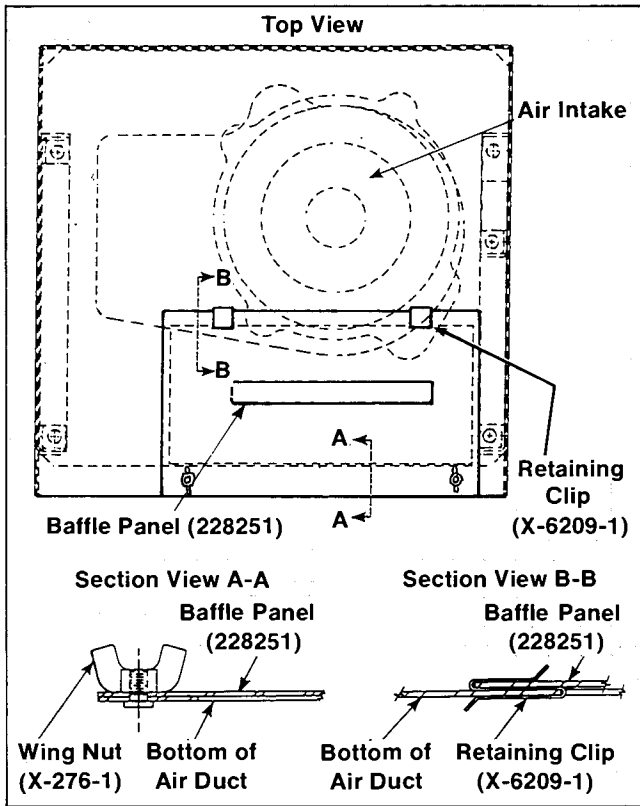

Figure 35. Installing Baffle Panel
4. Slide the two retaining clips (X-6209-1) into position at rear edge of rectangular opening in air duct. See Figure 35 for placement of retaining clips.
5. Position baffle panel (228251) over rectangular opening in air duct. Secure rear edge of baffle panel with retaining clips previously installed. Align hole in base of baffle panel with weld screw on bottom of air duct. Secure with wing nuts (X-276-1). See Figure 35. The baffle panel can be removed to service the engine air cleaner.